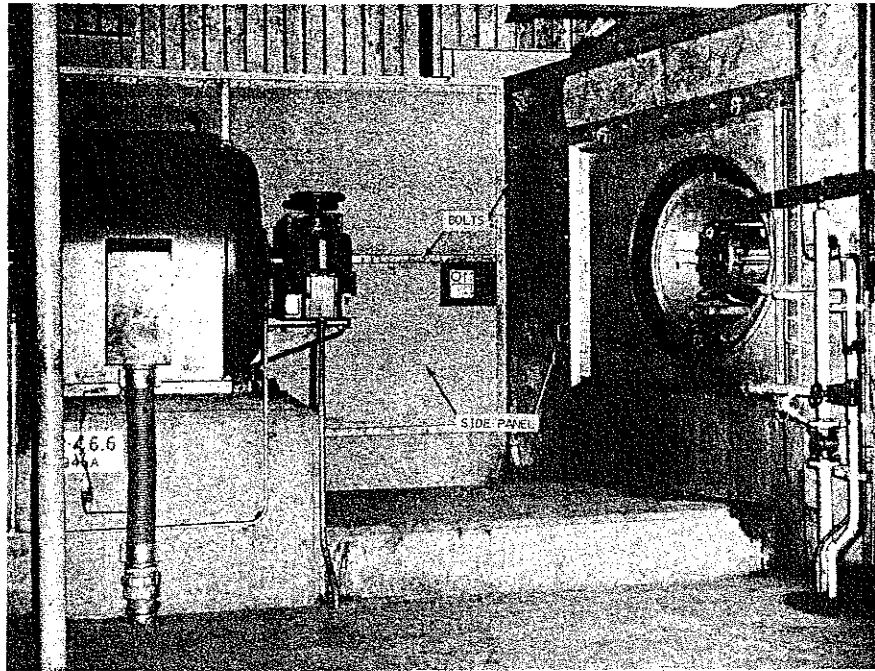

FIG. 3 ENTRANCE TO CONVERTER
- d. Remove bolts from side panel of cell adjacent to compressor nearest converter to be changed. (Fig. 3)